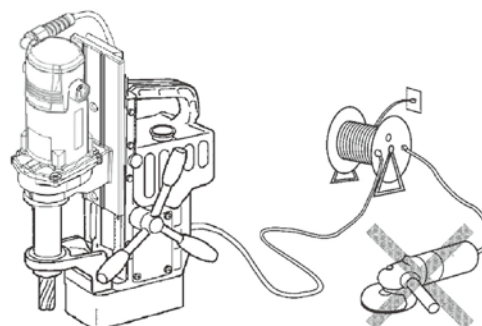

Fig. 7
- Do not use an extension cord that is too thin. Do not use an extension cord that is too long. Do not use an extension cord that is wound on a drum. Do not share an extension cord with other motor-driven tools. These uses can cause voltage to drop and can reduce the holding power of the magnetic base, causing the machine to move during operation. This can decrease performance and may cause damage to the machine. (Fig.7)